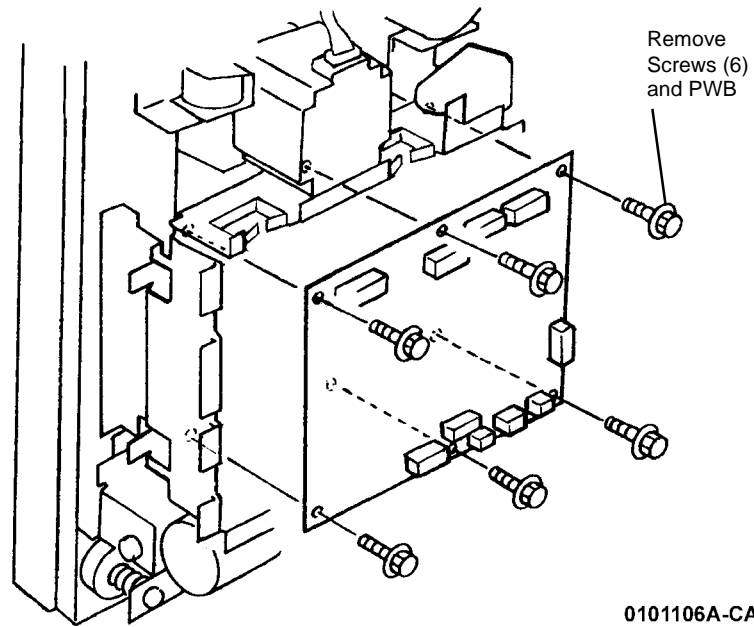

Figure 3 Removing Finisher PWB
5. Remove the Finisher PWB (Figure 3).